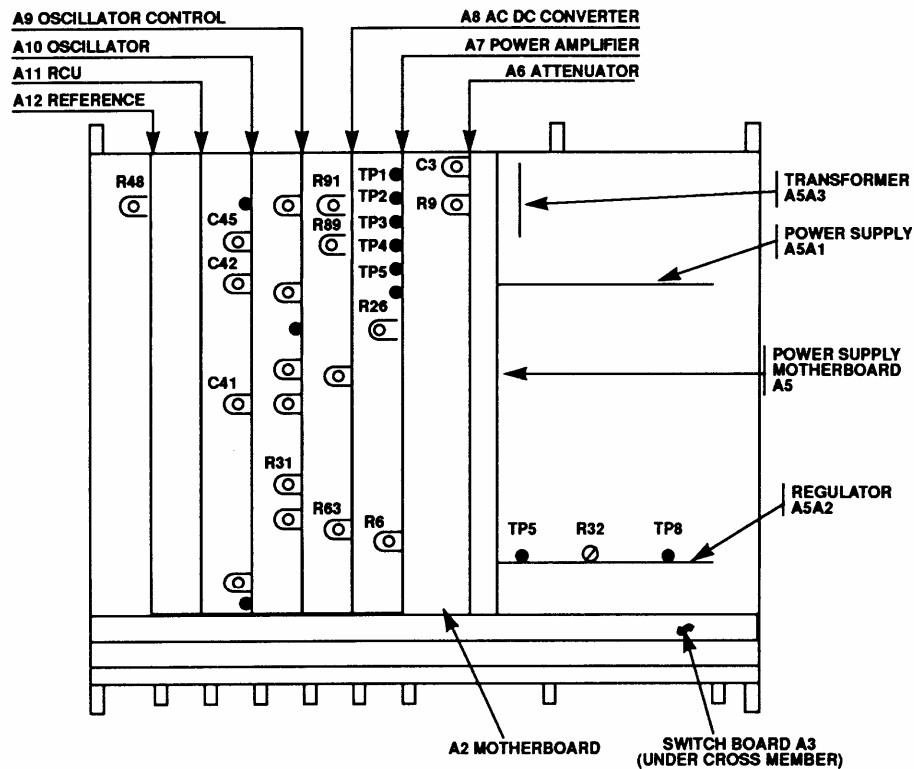

Figure 1. Ac calibrator - adjustment locations.
(1) Connect true rms voltmeter to **QUADRATURE OUT** (rear of TI).
(2) Set true rms voltmeter **FUNCTION** pushbutton to **FILT OUT**.
(3) Connect frequency counter to **COUNTER OUT** (rear of TI).
(4) Set **FREQUENCY RANGE-Hz** switch to **1 M** and **FREQUENCY** dials to **1.0520 MHz**.
(5) If frequency counter does not indicate between 1.0420 and 1.0620 MHz, adjust A10C41 and A10C45 (fig. 1) in equal amounts in the same direction until frequency counter indicates 1.0520 MHz (R).
(6) If true rms voltmeter does not indicate between 9 and 11 V, adjust A10C41 and A10C45 (fig. 1) in equal amounts in opposite directions until true rms voltmeter indicates 10 V (R).
(7) Set **FREQUENCY RANGE-Hz** switch to **100 K** and **FREQUENCY** dials to **80.00 kHz**.
(8) If frequency counter does not indicate between 79.6 and 80.4 kHz, adjust A10C42 (fig. 1) for a counter indication of 80 kHz (R).
- (1) Connect multimeter between A7TP4 (LO) and A7TP5 (HI) (fig. 1) of the power amplifier board.
- (2) Set **FREQUENCY RANGE-Hz** switch to **100 K** and **FREQUENCY** dials to **100.00 kHz**.
- (3) Set **VOLTAGE RANGE** switch to **100 V** and **VOLTAGE** dials to **10.0000 V**.
- (4) If multimeter does not indicate between 0.34 and 0.36 V dc, adjust A7R26 (fig. 1) for multimeter indication of 0.35 V dc (R).
- (5) Set **FREQUENCY** dials to **50.00 kHz**.
- (6) Measure distortion. Adjust A9R31 (fig. 1) for minimum distortion (R).
- (7) Connect multimeter to **TI OUTPUT** and **SENSE** terminals, using two cables.
- (8) Set **FREQUENCY RANGE-Hz** switch to **1 kHz** and **FREQUENCY** dials to **1.0 K**.
- (9) Set **VOLTAGE RANGE** switch to **10 V**, **VOLTAGE** dials to **10.00000 V** and **SENSE** switch to **EXT**.
- (10) If multimeter does not indicate between $\pm 100 \mu\text{V}$ dc, adjust A7R6 (fig. 1) for a within-tolerance indication (R).
b. Adjustments (figure 1)